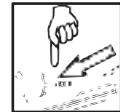

fig 3.
■ DISCONNECT TOOL FROM AIR SUPPLY BEFORE LOADING fasteners to prevent a fastener from being fired during connection. (See fig3.)